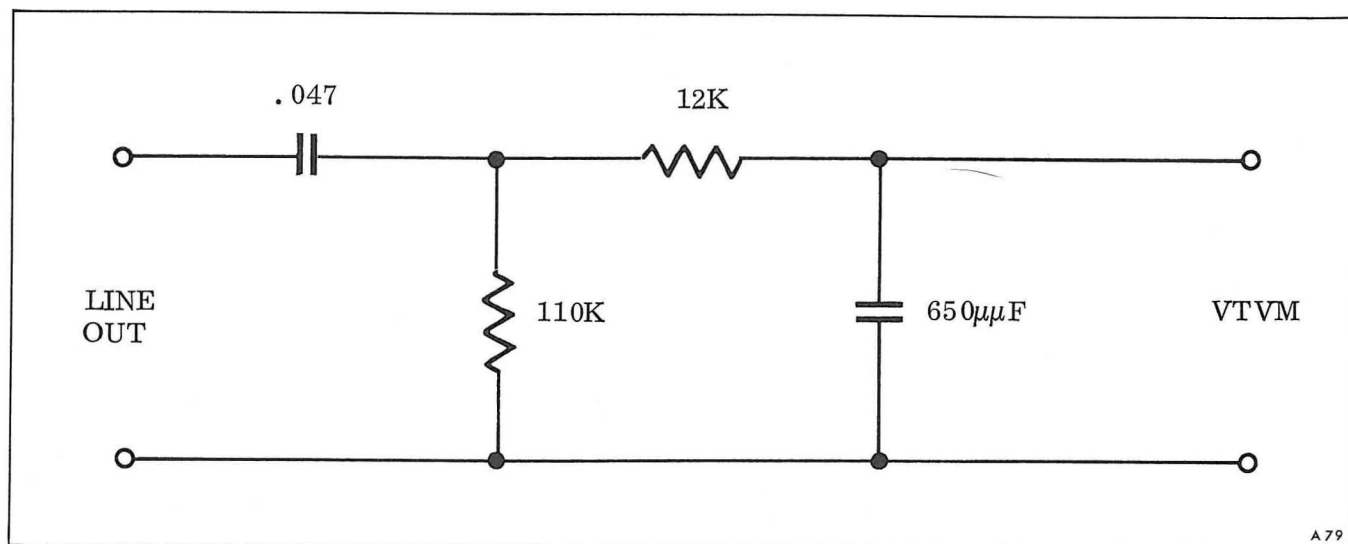
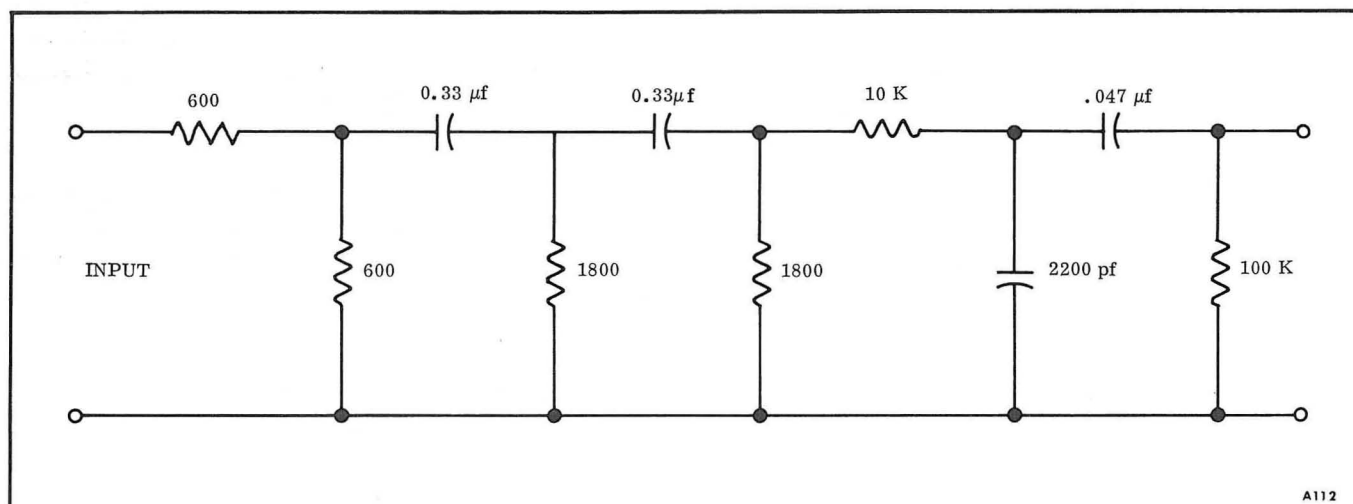

Figure 5-1. Noise Filter Schematic
Figure 5-2. ASA "A" Curve Filter Schematic
6. Noise Filter (see Figure 5-1) or ASA "A" Curve Filter (see Figure 5-2).
5-15 RECORDER/REPRODUCER. This check requires a noise filter or an ASA "A"-curve filter to attenuate noise outside of the audible frequencies. Schematic diagrams of the filters are given in Figures 5-1 and 5-2. With the noise filter, signal-to-noise ratio is conventionally computed from a peak record level at 6 dB above normal operating level. Therefore, on equipment strapped for a +8 dBm operating level, the vtvm noise indication must be increased in magnitude by 14 dB (i.e., a vtvm reading at -46 becomes -60 dB). On equipment strapped for a +4 dBm operating-level output, the vtvm indication must be increased in magnitude by 10 dBm. When an "A" weighted-curve noise measurement is being made, using the ASA filter, increase the vtvm indication by 10 dB for a +8 dBm output, or 6 dB for a +4 dBm output. Check signal-to-noise ratio of the recorded reproducer as follows: